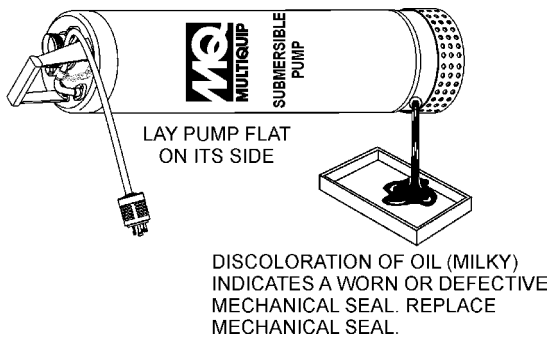

**Figure 21. Adding Lubrication Oil**
1. Lay the pump (Figure 21) on its side with the oil plug facing upwards.
2. Use a funnel (Figure 21) and fill oil cavity with ISO VG32 lubrication oil or equivalent. Pump oil cavity capacity is 300 ml. Fill to 75-80% capacity to allow for expansion. Replace lubrication oil every 6 months (1,000 hours) or as needed.